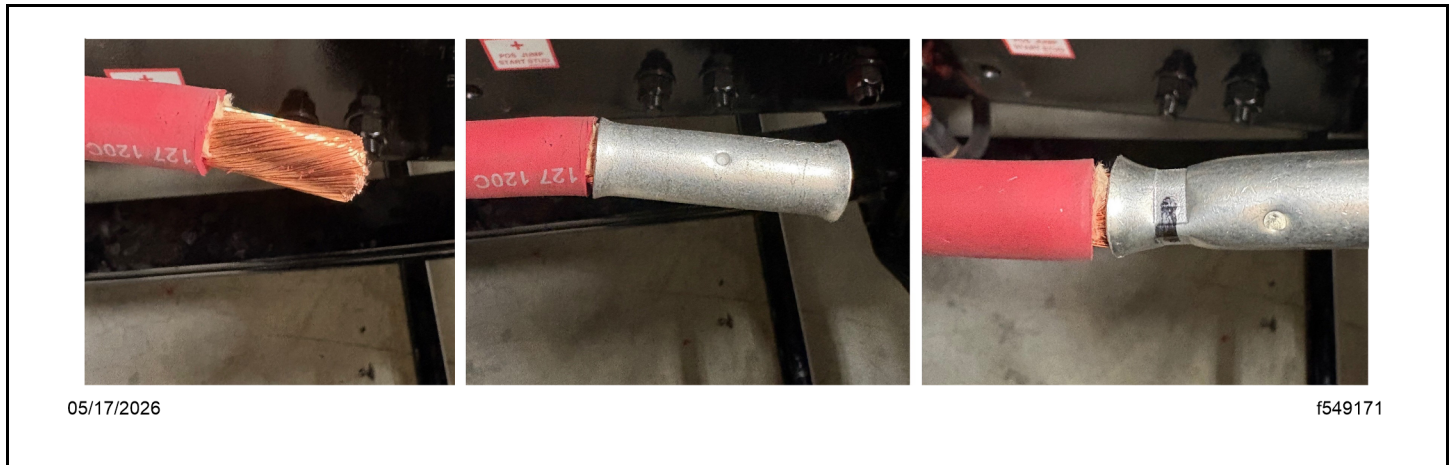

Fig 132, Installing and Crimping the Terminal
21. Crimp the butt connector terminal (PHM 8 2960) on the cable going to the cab. See Fig. Fig. 132.